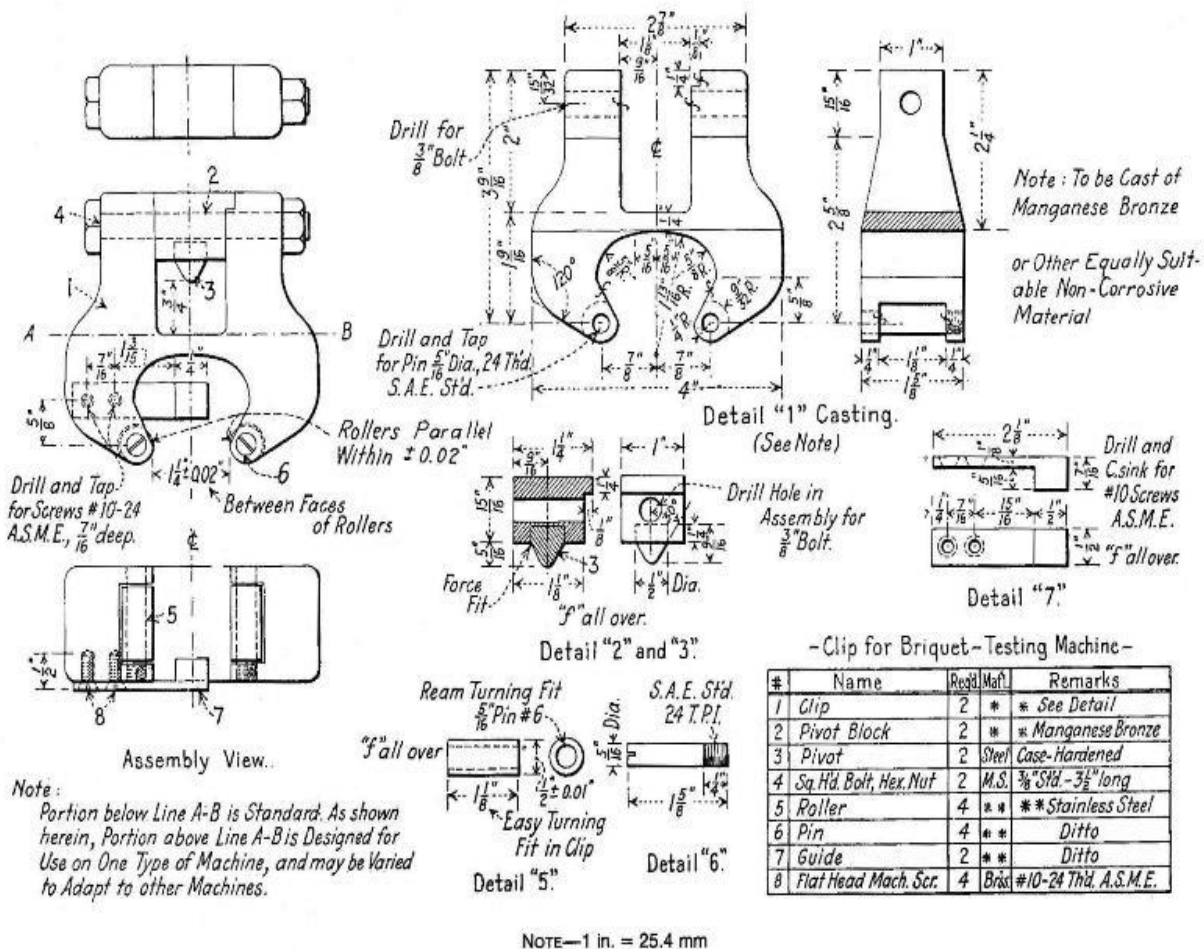

Figure 3—Grips for Constant Rate of Crosshead Movement Testing Machine
- 8.3.1.5 *Testing machine*, capable of maintaining a constant rate of travel of 0.05 in./min. (1.3 mm/min.) and applying a tensile force of at least 500 lbf. (2.2 kN) Use grips to hold specimens as shown in Figure 3.